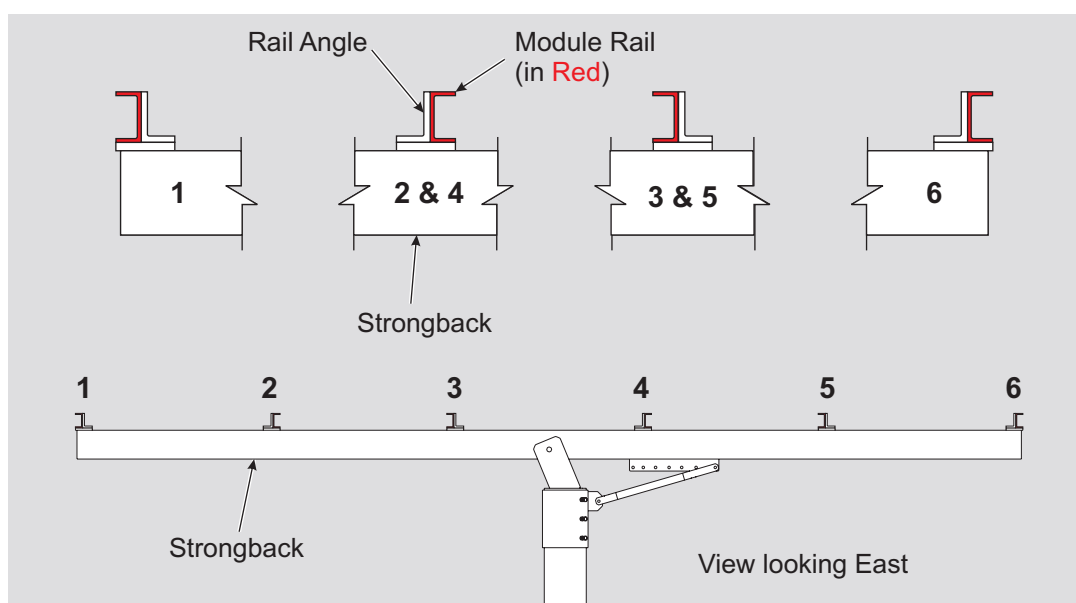
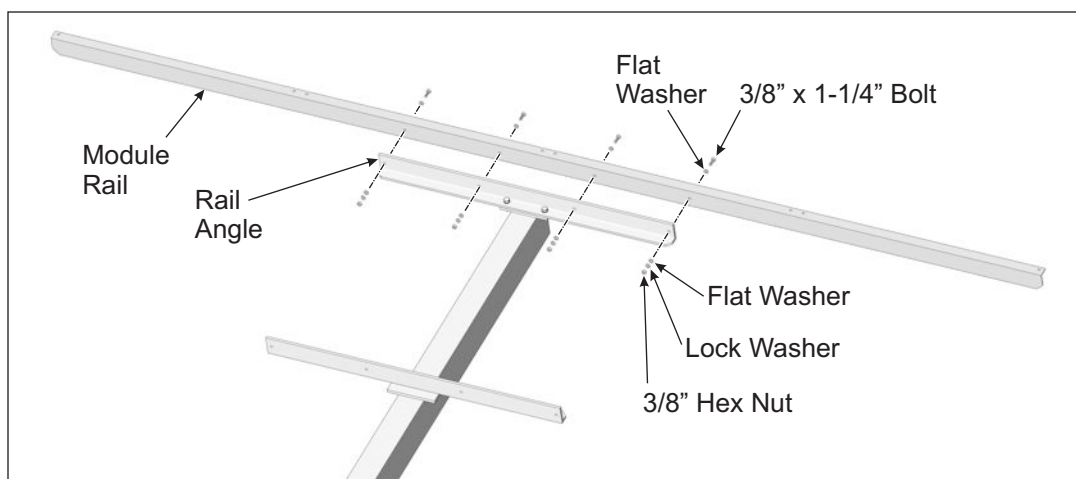

Figure 4-1: Orientation of Module Rails to Strongback
Figure 4-2: Installing Module Rail to Rail Angle
Module Rails must also be properly oriented to the Strongback; if not the PV Modules will not align to the mounting holes of the Module Rails. (See Figure 4-1)
- A. Referring to Figure 4-1 for orientation of the inboard Module Rails, position the first section of Module Rail (with its angle cut end positioned north) at the northern most position on the Cross-Bars. Align the Module Rail mounting holes with the holes of the Cross-Bar mounting tabs and secure with 3/8" x 1-1/4" bolts and hardware. Finger-tighten for now. (See also Figure 4-2)